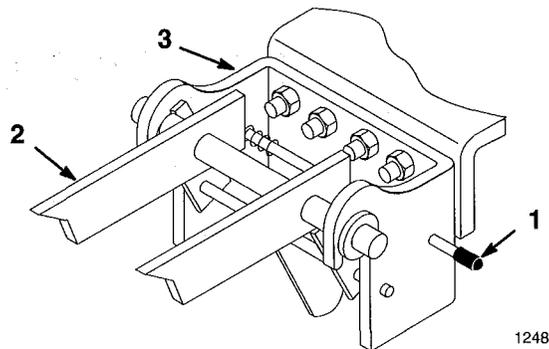

Figure 23
13. Open front hitch lock (Fig. 23) and remove snowthrower mounting frame from front hitch.